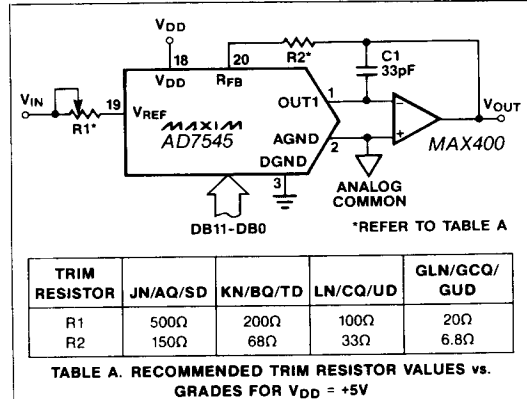

Figure 3. Unipolar Binary Operation
**Note 1:** Using internal feedback resistor, RFB. DAC register loaded with 1111 1111 1111. Gain error is adjustable using the circuits of Figures 3, 4 and 8.
Either current output can be converted into a voltage externally by adding an output amplifier (Figure 3). The  $V_{REF}$  input accepts a wide range of signals including fixed and time varying voltage or current inputs. If a current source is used for the reference input, then a low temperature coefficient external resistor should be used for  $R_{FB}$  to minimize gain variation with temperature.
The most common configuration for the AD7545 is shown in Figure 3. This circuit is used for unipolar binary operation or two-quadrant multiplication. The
Table 1. Unipolar Binary Code Table for Circuit of Figure 3
In many applications the gain adjustment will not be necessary, especially when using the "G" suffix parts with guaranteed maximum  $\pm 1$  LSB gain errors. In those cases and also when the gain is trimmed at the reference source, resistors R1 and R2 in Figure 3 can be omitted. However, if the trims are desired and the DAC is operated over a wide temperature range, then low tempco ( $<300ppm/^{\circ}C$ ) resistors should be used for R1 and R2.
The unipolar and bipolar circuits in Figures 3 and 4 can all be converted to voltage output mode. For example, Figure 8 shows the 2's complement bipolar circuit of Figure 4 modified to work with an output range of +2V to +8V around an offset ground potential of +5V from a single supply,  $V_{DD}$ , of +10V to 15V. The REF02 reference is used to bias the AGND at +5V. The R1 and R2 resistors form a voltage divider together